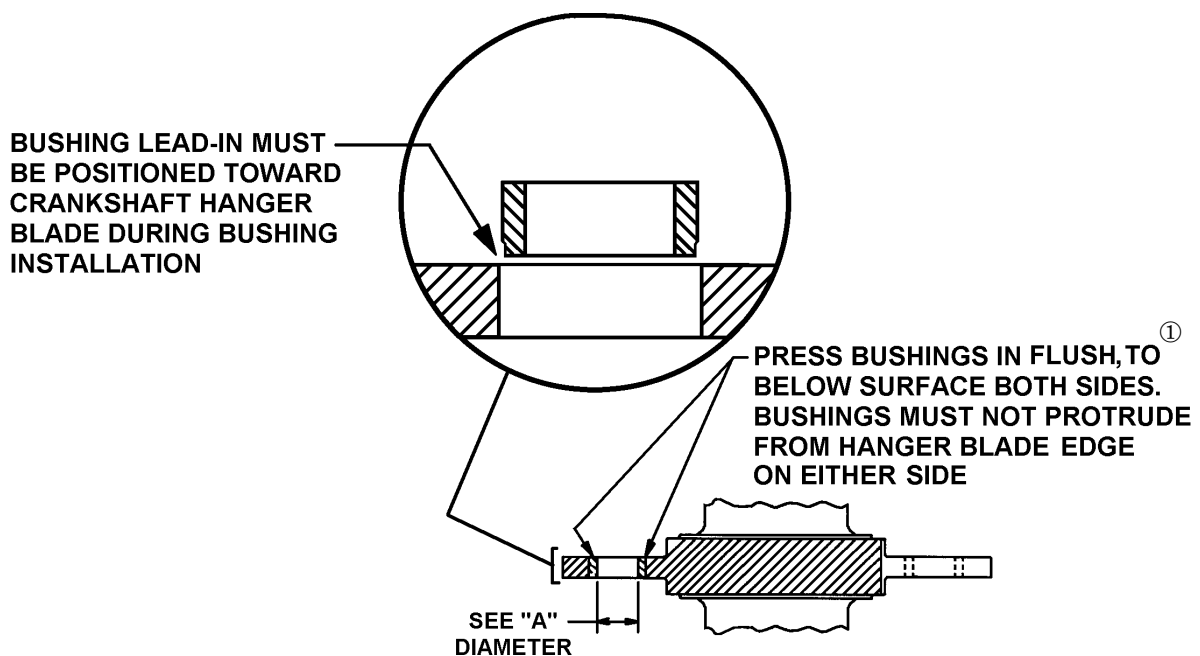

FIGURE 6. CRANKSHAFT HANGER BLADE BUSHING INSTALLATION
3. The crankshaft counterweight hanger blade bushings must be replaced using the specified tools and following procedure. Refer to Figure 6 for specifications regarding crankshaft hanger blade bushing removal and replacement.
- c) Refer to Figure 6 for specifications regarding crankshaft hanger blade bushing removal and replacement. The new bushings must be installed into the same positions as the original bushings. Replacement crankshaft blade bushings are available in standard and some oversize dimensions. Refer to note ③ Table 3.